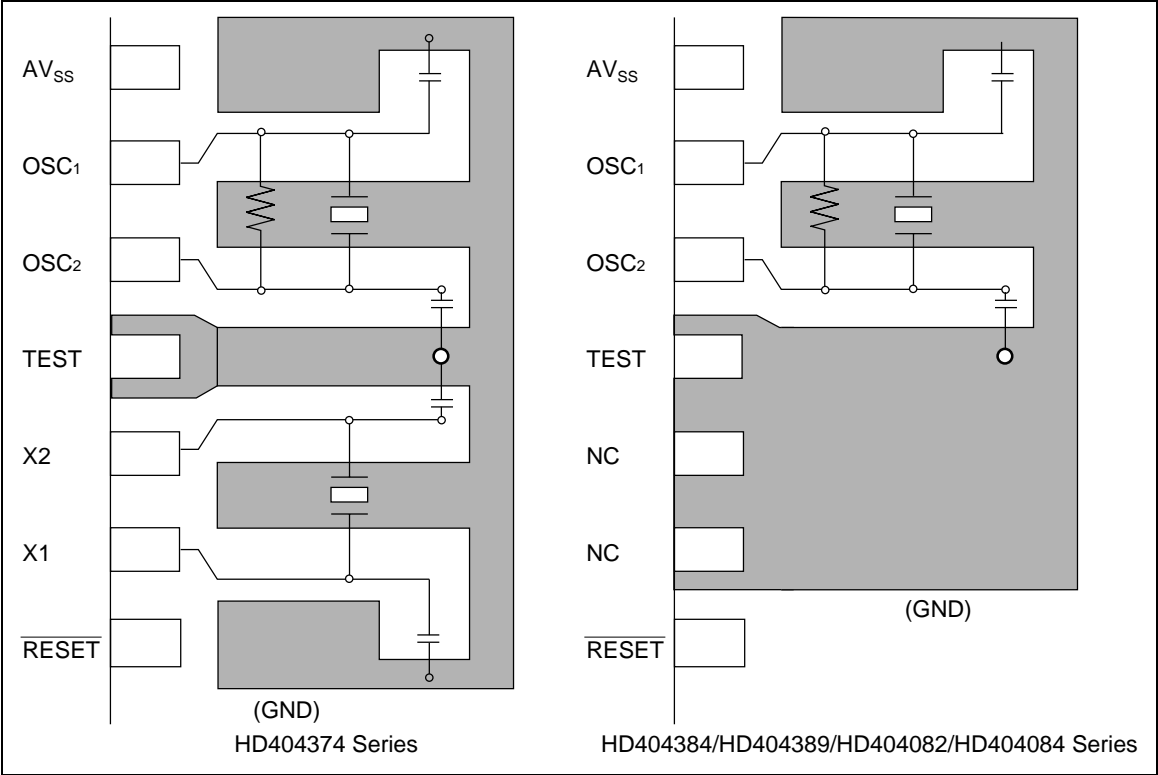

Figure 23 Typical Layouts of Crystal and Ceramic Oscillator
- Make the connections between the OSC₁ and OSC₂ pins (X1 and X2 pins) and external components as short as possible, and ensure that no other lines cross these lines (see layout example in figure 23).